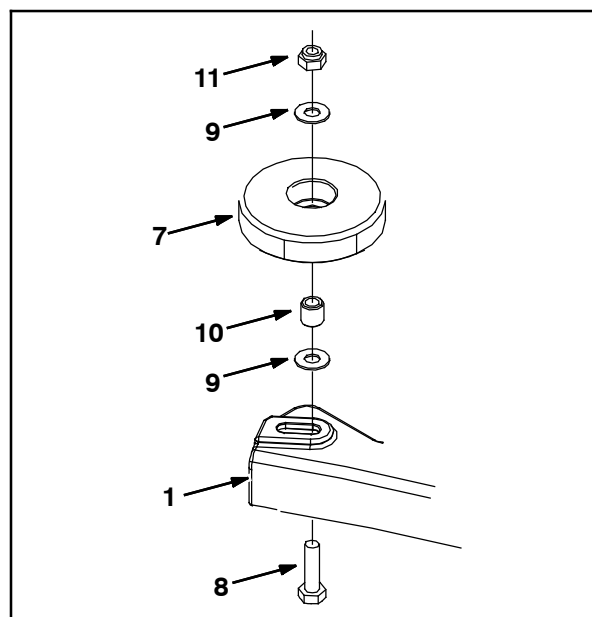

FIG. 2
4. Use the provided hex screws (8), flat washers (9), sleeves (10), and hex nuts (11) to install bumper wheels (7) onto both ends of the new squeegee frame (1). Refer to Fig. 2.